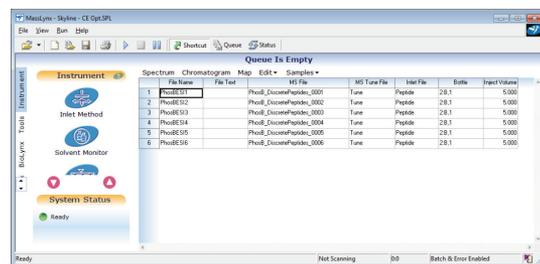

Figure 7. Sample list in MassLynx.
Step 4. Create the Sample List in MassLynx, browse in the individual MS methods and perform the injections (Figure 7).